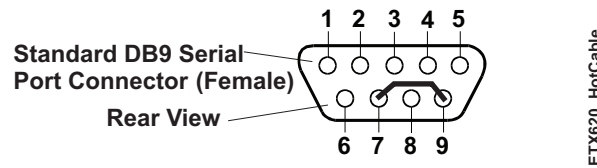

Figure 3-2. Hot Cable Jumper
To convert a standard serial cable to a Hot Cable for use on the custom baseboard, two pins must be shorted together at the Serial port DB9 connector. Short together the RTS (7) and RI (9) pins on Serial port DB9 connector as shown in Figure 3-2.